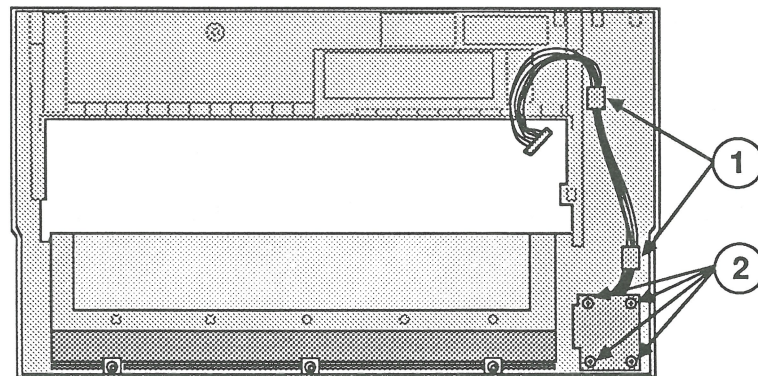

FIGURE 8
2. Remove the control panel cable from its two retaining clips (Figure 8, #1) by **gently** lifting the top part of the clip with your forefinger and sliding the cable out with your other hand.
3. Remove the four Phillips screws holding the control panel PCA to the main cover (Figure 8, #2) and lift out the control panel and cable.